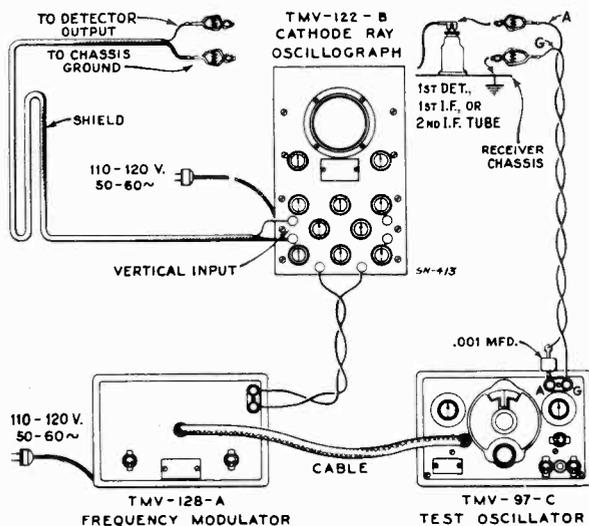

Figure 5—Alignment Apparatus Connections
to a basic frequency of 460 kc. The last transformer must be aligned firstly and the first transformer aligned secondly. For such a process, it is necessary to feed the output of the Full Range Oscillator to the stages in their order of alignment, adjusting the trimmers of each transformer and observing the effect at the second detector output on the Cathode-Ray Oscillograph. The proper point of connection of the Oscillograph is with its vertical "high" input terminal attached to the juncture of R-7 and R-8, as illustrated in Figure 6, and with the "0" or ground terminal to the chassis. The "Ext. Sync." terminals of the Oscillograph should be connected to the Frequency Modulator as shown by Figure 5. A .001 mfd. capacitor installed in series with the Oscillator "Ant." lead will prevent the voltages of the stage under alignment from becoming upset. The vertical "A" amplifier should be "On" for the ensuing adjustments
- (b) Attach the output of the test Oscillator between the control grid cap of the RCA-6K7 i-f tube and chassis ground as shown typically by Figure 5. Tune the Oscillator to 460 kc. and set its modulation switch to "On." Regu-
- (c) The Frequency Modulator should then be placed in operation and interconnected with the Full Range Oscillator by means of the special shielded patch cord. Figure 5 shows the proper arrangement. Set the Frequency Modulator sweep range switch to its "Lo" position and turn the Oscillator modulation switch to "Off." Change the timing control of the Oscillograph to "Ext." and place the range switch to its No. 2 position. Then carefully shift the tuning of the Oscillator so as to increase its frequency, until two distinct and similar waves appear on the Oscillograph screen and become exactly co-incident at their highest points. This condition will be found to occur at an Oscillator setting of approximately 540 kc. The curves will be identical in shape but appearing in reversed positions. Adjust the frequency control of the Oscillograph in order to cause the waves to conform with the above requirement and to make them remain motionless on the screen. This will require a setting of approximately $\frac{1}{2}$ clockwise rotation of the frequency control. The trimmers C-20 and C-21 should then be re-adjusted so that the two curves move together and become exactly coincident throughout their lengths, maintaining the maximum amplitude at which this condition can be brought about.